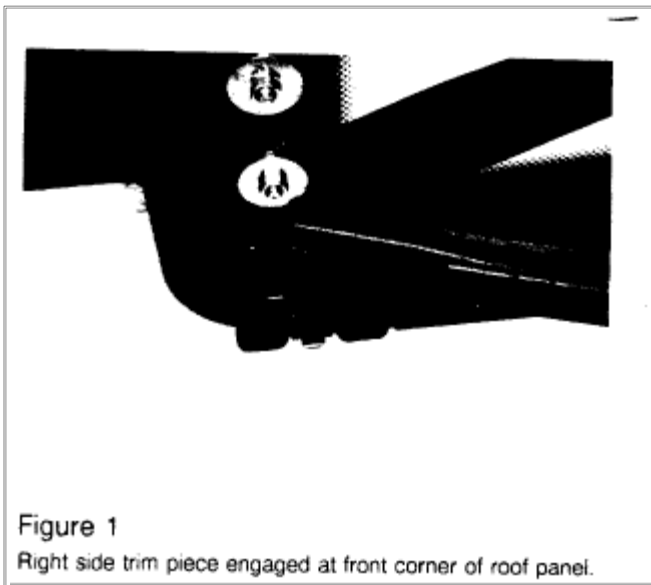

Figure 1
7. Install new side trim ("bellows") pieces. Engage trim piece at front of roof panel onto tilt bracket assembly as shown in Figure 1.